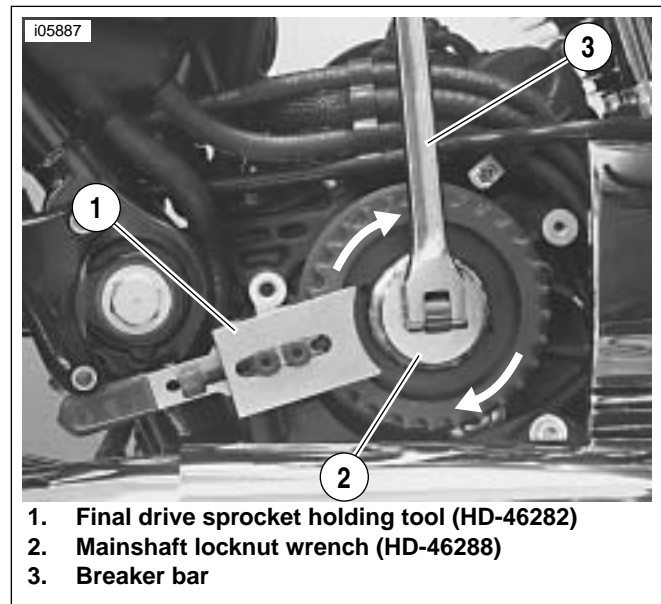

Figure 4. Removing Transmission Locknut
5. See Figure 4. Use TRANSMISSION SPROCKET HOLDING TOOL (Part No. HD-46282) (1), MAINSHAFT LOCKNUT WRENCH (Part No. HD-46288) (2), and a breaker bar (3) to remove transmission sprocket nut (**left-hand threads**). Place handle of sprocket holding tool under bottom of footpeg bracket. Turn nut **clockwise** to loosen and remove it.